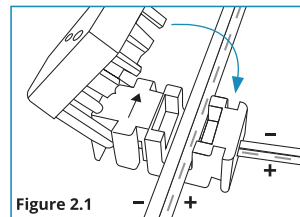

Figure 2.1
3. Seat the Array's wires into the open connection block and then close the connection block over the wires (Figure 2.1).